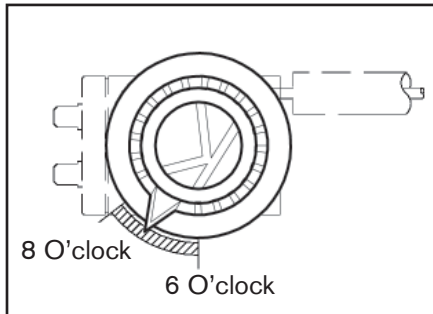

Figure 1
- 8. The knob pointer should be pointing in the marked area shown in the diagrams in Figure 1.
10. For the following Fryer thermostats, use Figure 1:
11. For the following Griddle thermostats, use Figure 1: